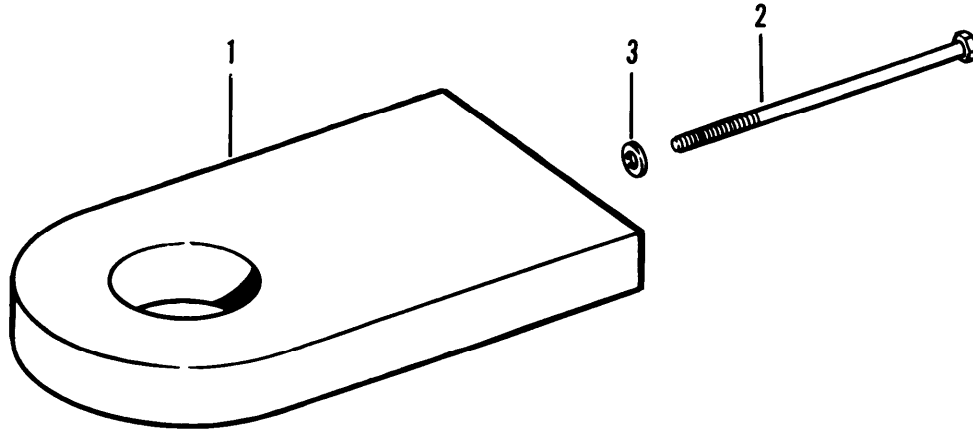

Figure 4-51. Lifting Eye
- (1) Move lifting eye (1, fig. 4-51) to extended position.
- (2) Remove bolt (2) and washer (3).
- (3) Remove lifting eye (1).
- (4) Repeat steps 1 through 3 for other lifting eyes as needed.
- (1) Install lifting eye (1, fig. 4-51) into position.
- (2) Install washer (3) and bolt (2).
- (3) Move lifting eye (1) to stowed position.
- (4) Repeat steps 1 through 3 for other lifting eyes as necessary.